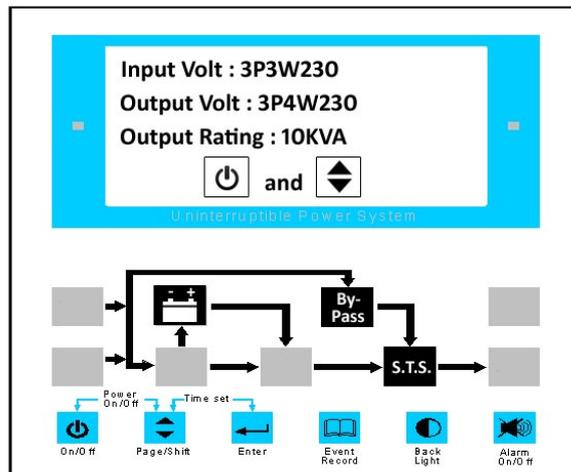

Figure 13 : LCD and Indicators - 1
4. Switch ON 「8. Battery Input N.F.B.」 (see Figure 4) and you will hear a short beep. The indicators will light and LCD will show as Figure 13.